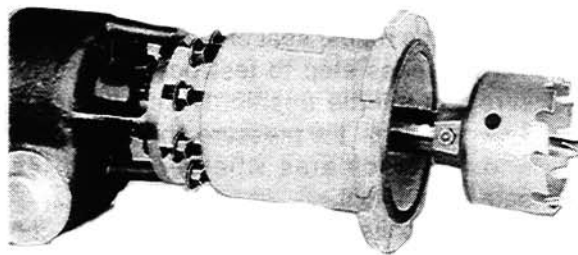

FIGURE 61
5. Assemble shell cutter and cutter hub. Insert the shank of pilot drill into the socket in the boring bar. Slide cutter hub and shell cutter over the end of the boring bar. Align holes of the cutter hub, boring bar, and pilot drill and attach to boring bar with hub retaining bolt. **Fig. 61.** Coat shell cutter and pilot drill thoroughly with MUELLER cutting grease.